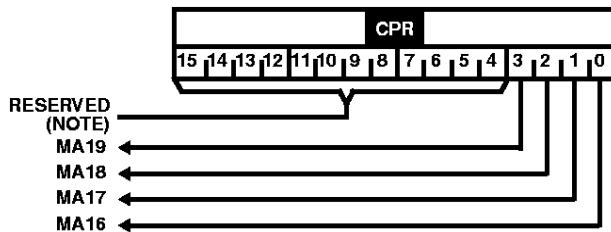

FIGURE 10. **CPR** BIT ASSIGNMENTS
**CPR**: The Code Page Register contains the value for the current 32K-word Code page. See Figure 10 for bit field assignments.